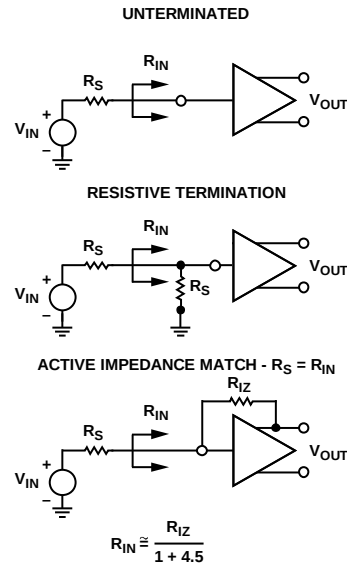
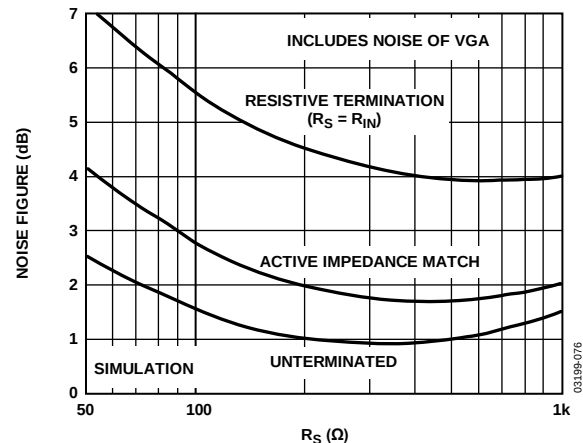
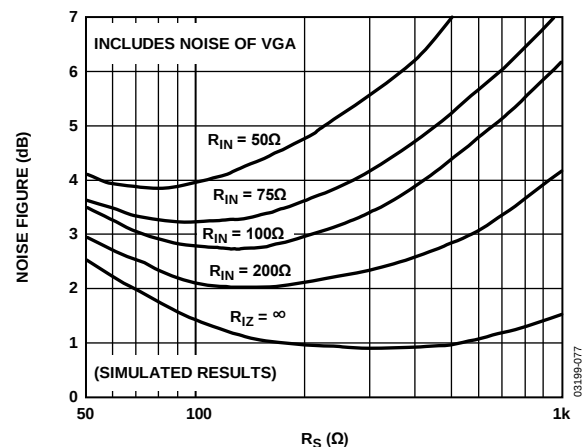

Figure 75. Input Configurations
Figure 76. Noise Figure vs. R_S for Resistive, Active Match, and Unterminated Inputs
Figure 77. Noise Figure vs. R_S for Various Fixed Values of R_{IN} , Actively Matched
The input-referred voltage noise sets an important limit on system performance. The short-circuit input voltage noise of the LNA is $0.74\text{ nV}/\sqrt{\text{Hz}}$ or $0.82\text{ nV}/\sqrt{\text{Hz}}$ (at maximum gain), including the VGA noise. The open circuit, current noise is $2.5\text{ pA}/\sqrt{\text{Hz}}$. These measurements, taken without a feedback resistor, provide the basis for calculating the input noise and noise figure performance of the configurations in Figure 75. Figure 76 and Figure 77 show simulations extracted from these results and the 4.1 dB noise figure (NF) measurement with the input actively matched to a $50\text{ }\Omega$ source. Unterminated ($R_{IZ} = \infty$) operation exhibits the lowest equivalent input noise and noise figure. Figure 76 shows the noise figure vs. source resistance, rising at low R_S , where the LNA voltage noise is large compared to the source noise, and again at high R_S due to current noise. The VGA input-referred voltage noise of $2.7\text{ nV}/\sqrt{\text{Hz}}$ is included in all of the curves.
The primary purpose of input impedance matching is to improve the system transient response. With resistive termination, the input noise increases due to the thermal noise of the matching resistor and the increased contribution of the LNA input voltage noise generator. With active impedance matching, however, the contributions of both are smaller than they would be for resistive termination by a factor of $1/(1 + \text{LNA Gain})$. Figure 76 shows their relative NF performance. In this graph, the input impedance is swept with R_s to preserve the match at each point. The noise figures for a source impedance of $50\ \Omega$ are 7.1 dB, 4.1 dB, and 2.5 dB, respectively, for the resistive, active, and unterminated configurations. The noise figures for $200\ \Omega$ are 4.6 dB, 2.0 dB, and 1.0 dB, respectively.
Figure 77 is a plot of NF vs. R_S for various values of R_{IN} , which is helpful for design purposes. The plateau in the NF for actively matched inputs mitigates source impedance variations. For comparison purposes, a preamp with a gain of 19 dB and noise spectral density of 1.0 nV/ $\sqrt{\text{Hz}}$, combined with a VGA with 3.75 nV/ $\sqrt{\text{Hz}}$, yields a noise figure degradation of approximately 1.5 dB (for most input impedances), significantly worse than the AD8331/AD8332/AD8334 performance.